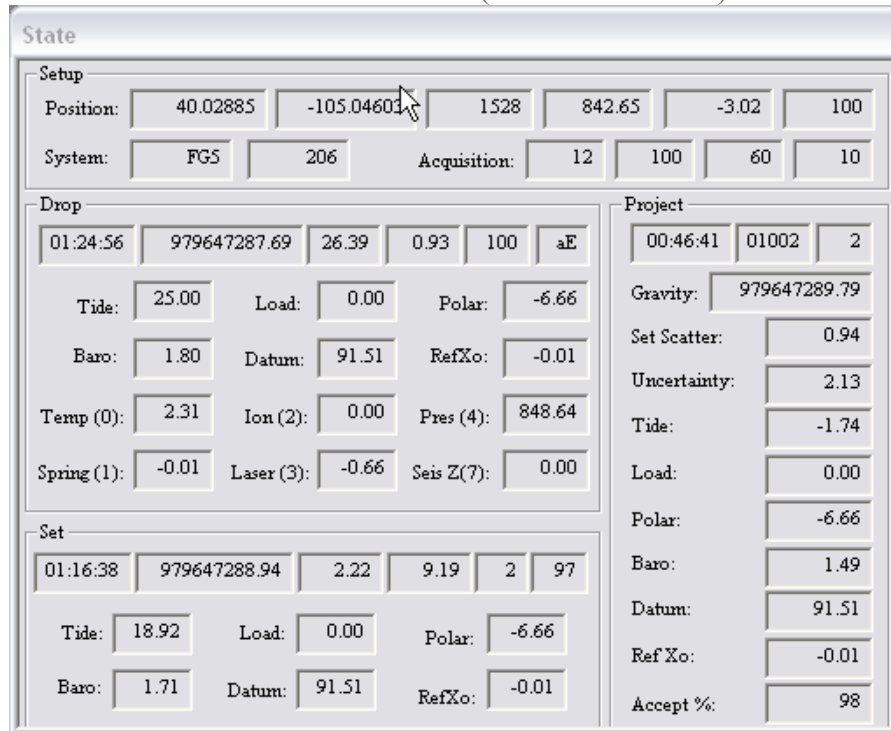

Figure 10. State Window
Figure 10 is another look at the State Window (also shown above).
As previously mentioned, the State Window is always displayed and contains the most information of any of the twelve views. In Figure 10, basic project setup information is shown in the top window including the position (40.02885, -105.04603, 1528), nominal pressure (842.65), gradient (-3.02), the instrument type and serial number, (FG5 206) and the acquisition parameters (12 sets, 100 drop/set, 60 minute set intervals, 10 second drop intervals). In order to display information to the user and keep the view uncluttered, many of the boxes are NOT labeled. However, by “hovering” the mouse cursor over each box, a “tool tip” including units will appear with a description of the value.
The second box (Drop) contains information pertaining to the current drop being processed. In the case of Figure 10, the drop is 100. The time of the drop is displayed (01:24:56), the corrected absolute gravity value of the last drop (979647287.69), the standard deviation of the drop (26.39), the RMS of the drop fit (nm) (0.93), the drop number (100), whether or not the drop was accepted or rejected and the peak lock (“aE” implies accepted, E lock). The next six boxes show the corrections in  $\mu\text{Gal}$  for tide (25.00), ocean loading (0.0), polar motion (-6.66), barometric (1.80), datum transfer (91.51), and reference Xo (0.01). The final six boxes show the current value of the
The third box (Set) contains information pertaining to the current set being processed. In the case of Figure 10, it is Set 2. The average time of the accepted drops used to calculate the set mean is displayed (01:16:33), the average corrected gravity value (979647288.94), the uncertainty of the set in  $\mu\text{Gal}$  (2.33), the drop to drop scatter in  $\mu\text{Gal}$  (9.19), the set number (2) and the number of drops accepted (97). The next six boxes display the average value of the corrections applied in  $\mu\text{Gal}$ : tide (18), ocean loading (0.00), polar motion (-6.66), barometric (1.71), datum transfer (91.51) and reference  $X_0$  (0.01).